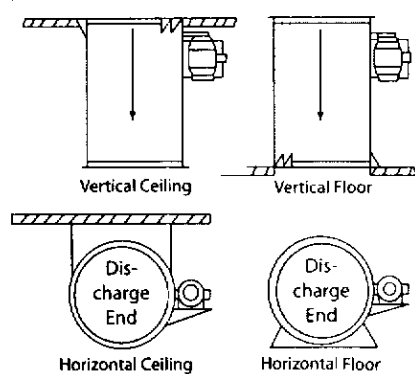

Figure 3
- The fan should be securely mounted in a rigid framework. (See Figure 3 for possible mounting arrangements).